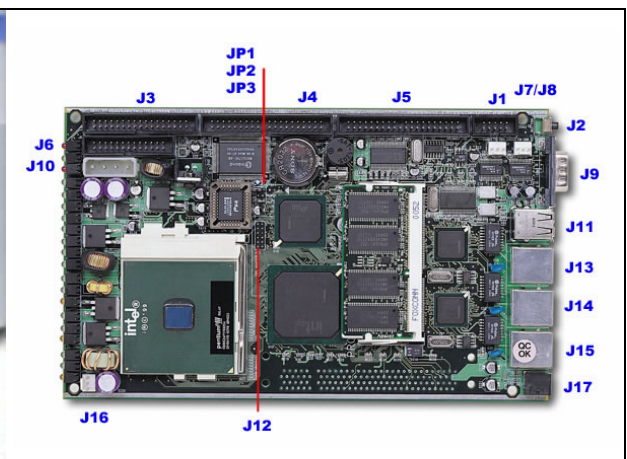

Fig. 2-43 Jumper Position
In general, jumpers on PPAP-200 system board are used to select options for certain features. Some of the jumpers are configurable for system enhancement. The others are for testing purpose only and should not be altered. To select any option, cover the jumper cap over (Short) or remove (NC) it from the jumper pins according to the following instructions. Here NC stands for “Not Connected”. (Please refer to *Fig. 2-43* for detailed jumper positions.)